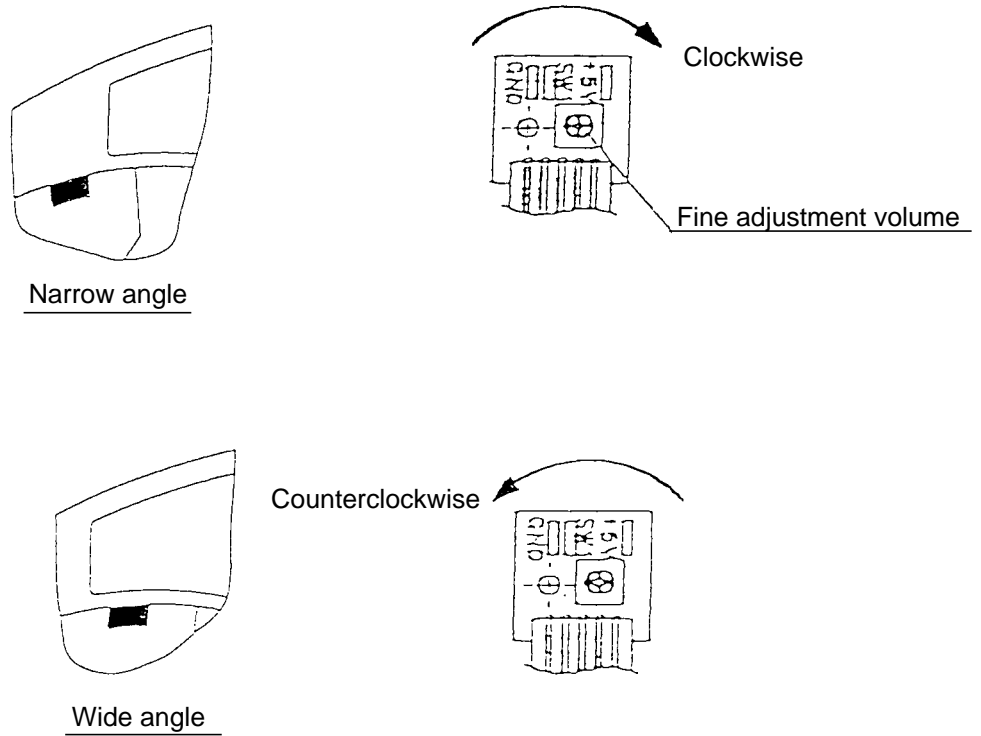

Fig. 31
(3) If the line "A" on the cam cover is out of the range of the angle gauge mark, finely adjust the bending accuracy as follows (Fig. 31).